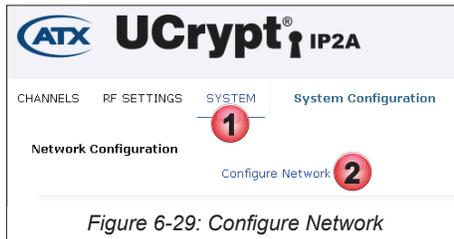

Figure 6-29: Configure Network
1. Click the **System** tab if it is not already selected, Figure 6-29.